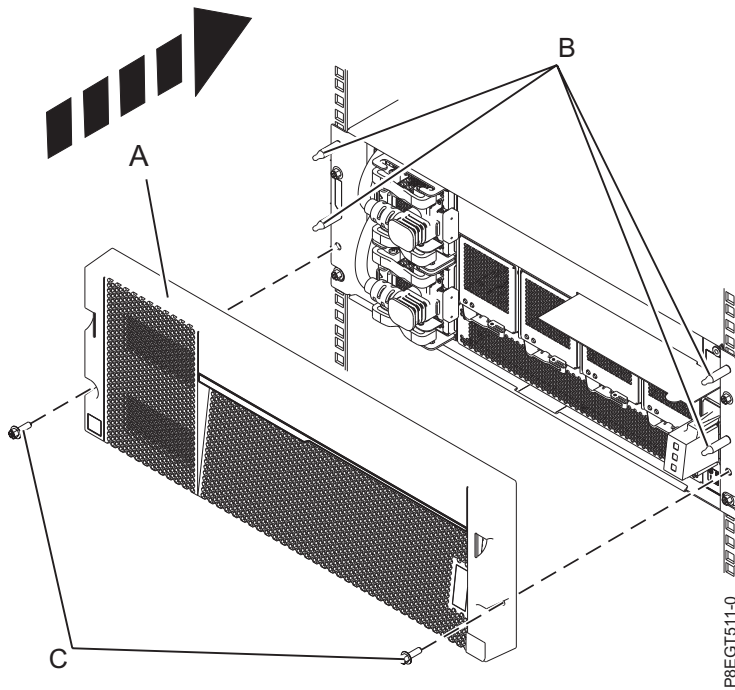

Figure 9. Replacing the front cover
2. Replace the front cover (A) by pressing the cover onto the locating pins (B). If the cover had screws (C) when the cover was removed, secure the cover with the screws. See Figure 9.